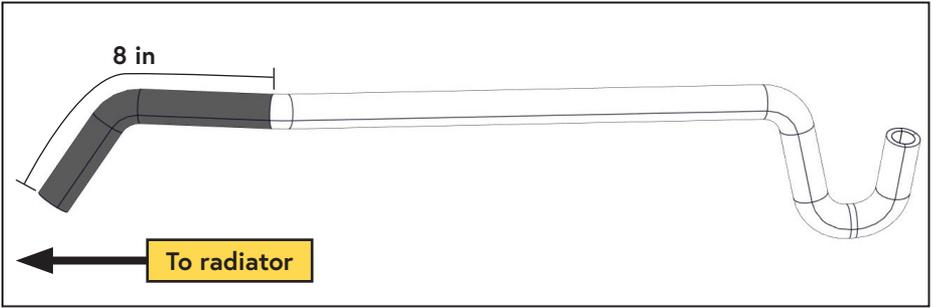

Figure 30 — Modify oil cooler hoses
- Cut the oil cooler hoses 8 in from where they connected to the diverter (Figure 30).